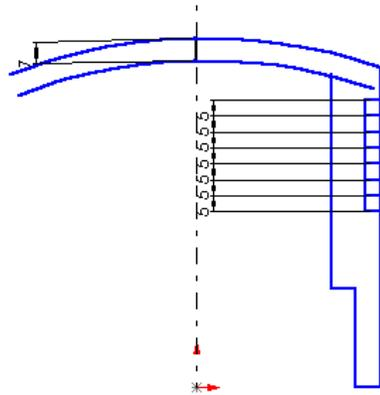

Figure 3-69 Sketch after creating various entities
- Use the offset tool to offset the required lines, refer to Figure 3-69.
The sketch after creating the entities using the various sketch tools and the offset tool is shown in Figure 3-69.